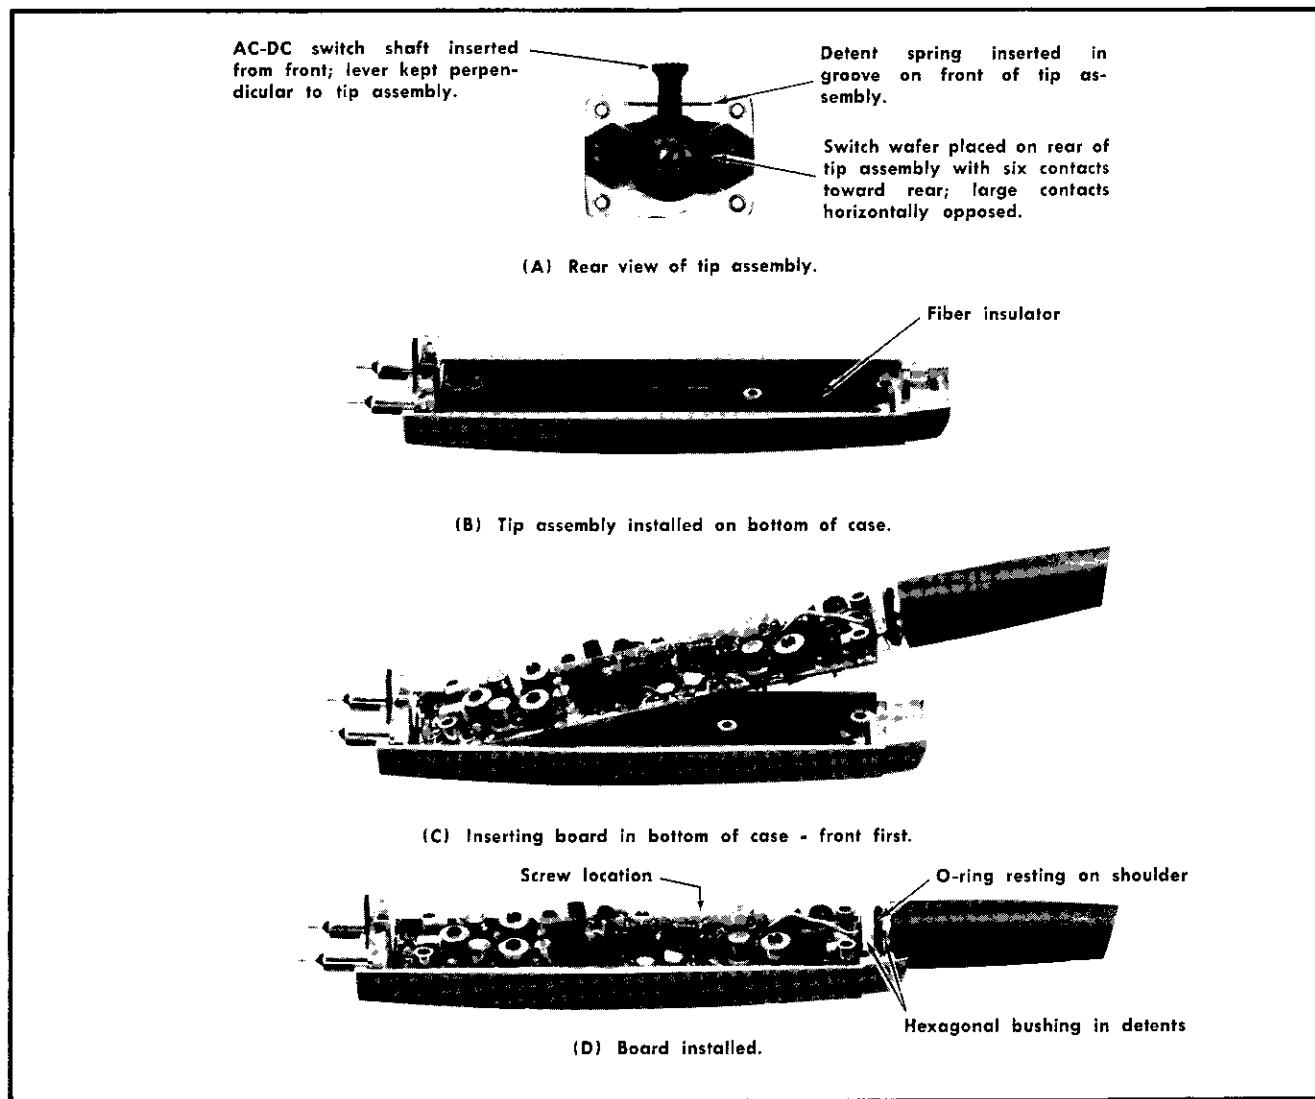

Fig. 4-2. Assembling probe components; see text for complete procedure.
**Replacing the Main Board.** Put the large fiber insulator in place in the bottom of the case. Insert the board front first into the bottom of the Probe case as shown in Fig. 4-2 (C). Put the rear end of it into place, aligning the neoprene O-ring with the shoulder at the rear of the case. The hexagonal bushing should fit in detents in front of and behind the shoulder. Insert and tighten the short screw near the center of the board. Be careful not to damage the plastic threads. See Fig. 4-2 (D).
**Replacement.** The tip assembly should be put together as shown in Fig. 4-2 (A) with particular attention being given to the positioning of the AC-DC switch contact assembly and the detent spring. Insert the assembly into the bottom of the Probe case as in Fig. 4-2 (B) before the main circuit board is installed. Keep the AC-DC switch perpendicular to the assembly to keep the detent spring in place. Fasten the two screws to the tip assembly through the front of the probe case.